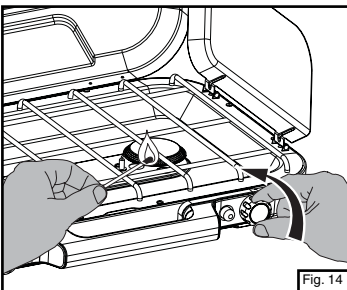

Fig. 14
- Hold lighted match near burner and open burner valve. (Fig. 14)